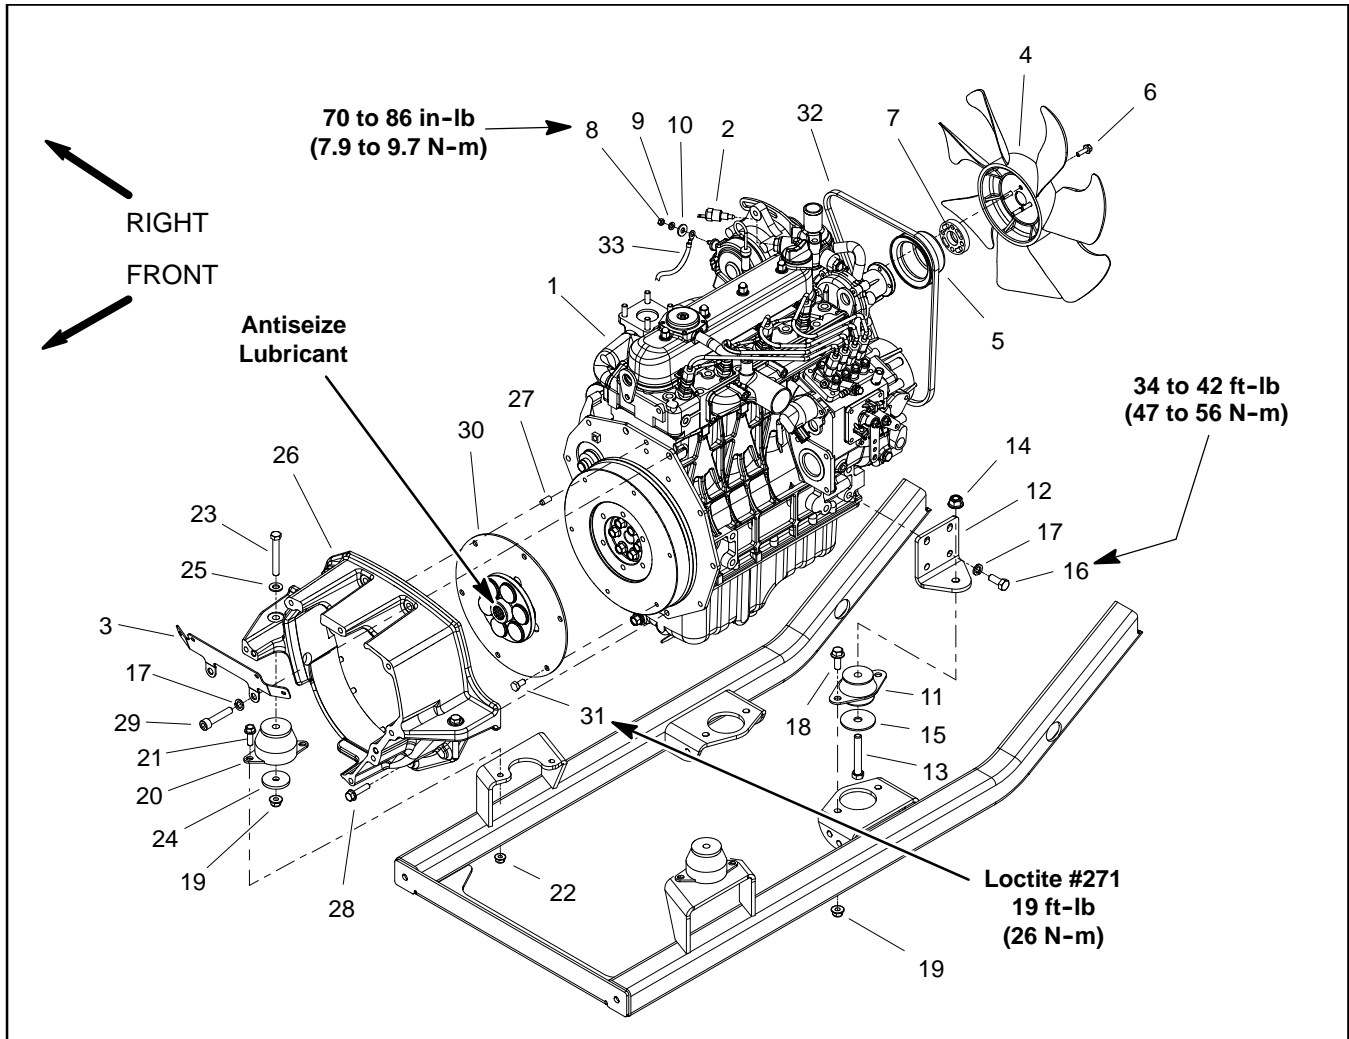
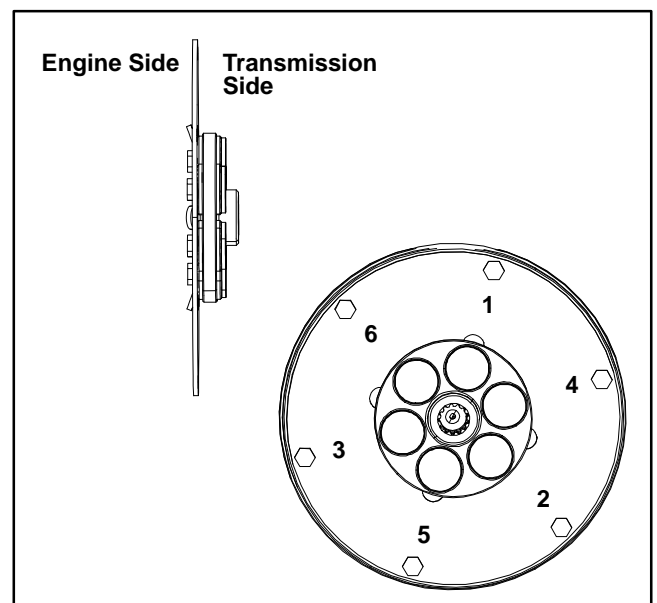

Figure 9
Figure 15
## Engine Removal (Fig. 9)
20. Locate and retrieve two (2) dowel pins (item 27) that locate flywheel housing to engine.
21. If necessary, remove six (6) cap screws (item 31) that secure flywheel coupling (item 30) to engine flywheel and remove coupling from engine.
22. If necessary, remove motor mount plates (item 12) from engine.
**Engine Installation (Fig. 9)**
2. If removed, install motor mount plates (item 12) to engine with cap screws and lock washers. Torque cap screws from **34 to 42 ft-lb (47 to 56 N-m)**.
3. If flywheel coupling was removed from engine, apply Loctite #271 (or equivalent) to threads of six (6) cap screws and secure coupling to engine flywheel. Torque cap screws **19 ft-lb (26 N-m)** twice in the sequence shown in Figure 15.
5. Position two (2) dowel pins (item 27) to engine end-plate.